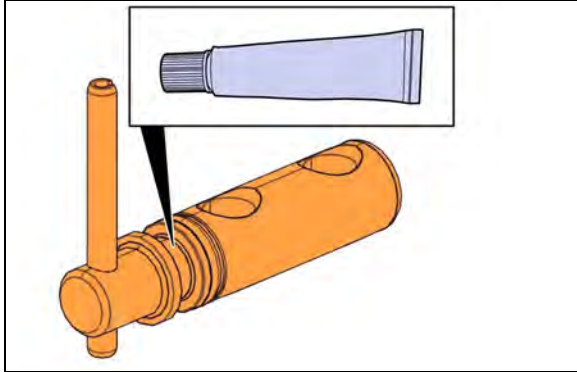

FIGURE 9: APPLY GRADE NLGI NO.2 SILICONE-BASED GREASE TO THE GROOVED AREA
10. Apply grade NLGI No.2 silicone-based grease to the grooved area of the spindle. Ensure the grooved area of the spindle is filled as completely as possible (Figure 9).